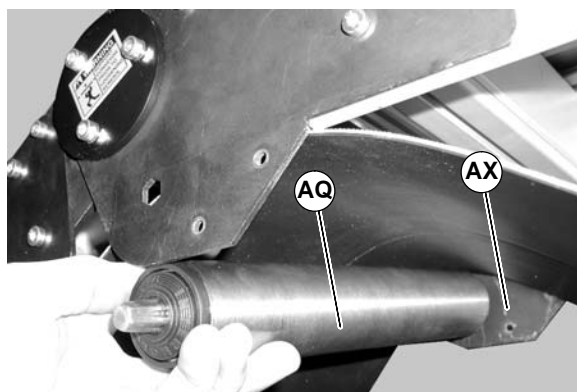

Figure 28
3. Install spring loaded return pulley (AQ of Figure 28) into knuckle plate (AX).